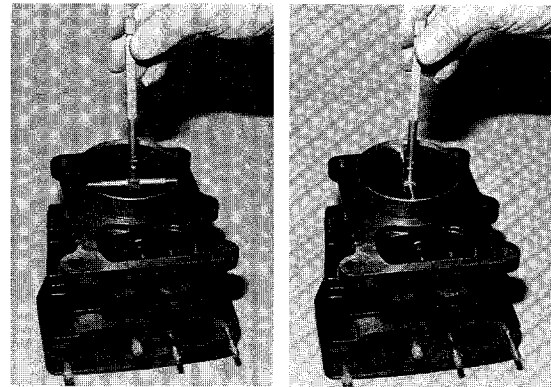

Figure 6-17
3. Measure cylinder bore $\frac{1}{2}$ in. from BOTTOM OF BORE. Measuring from front to rear, then left to right (4 point measurement). Record the measurements (**Figure 6-17**).